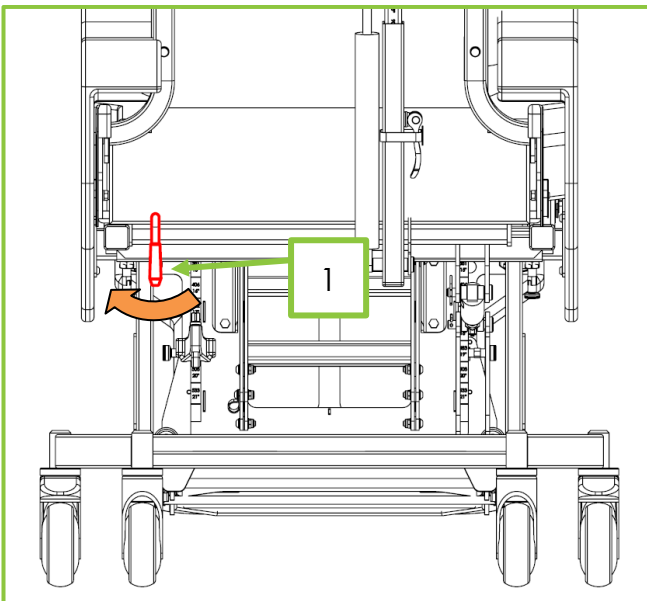

Figure 13
3. At the back of the chair, under the seat on the left-hand side, locate the depth adjustment lever (Fig 13, Item 1)